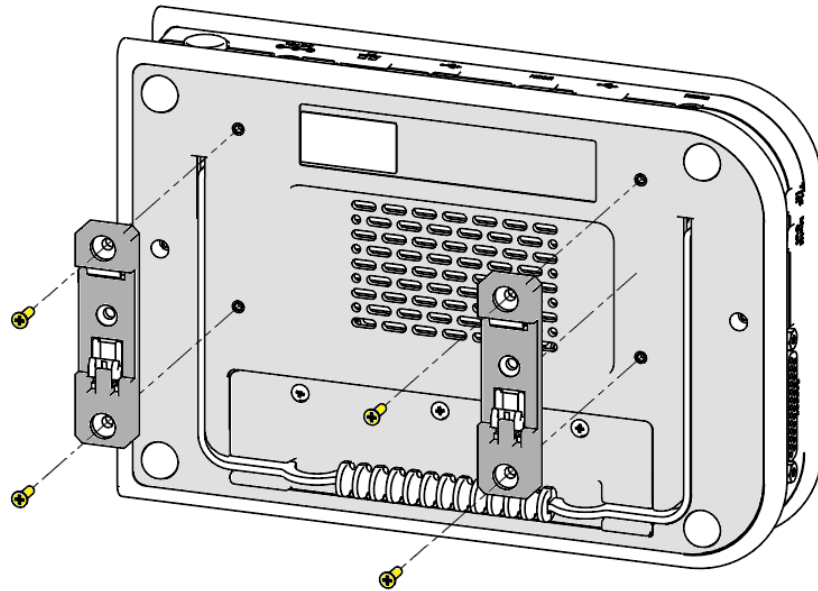

Figure 3-9. Drill Holes to Mount Brackets
2. Attach the two brackets to the meter using two screws each. Figure 3-9 shows the location of the holes on the back of the meter where attach the screws are attached.